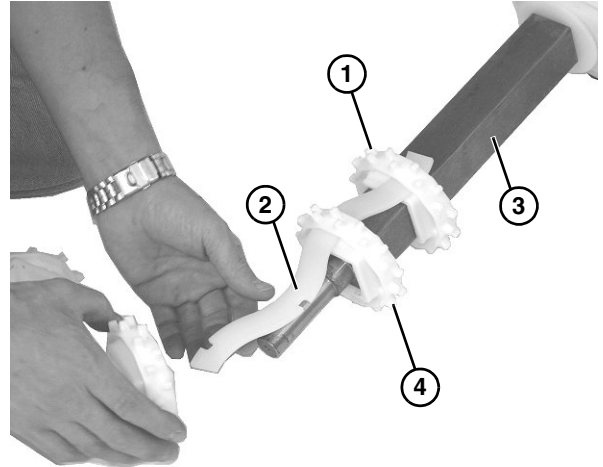

Figure 45
12. To assemble sprockets onto drive spindle, slide one sprocket (**Figure 45, item 1**) onto alignment bar (**Figure 45, item 2**) and slide assembly onto drive spindle (**Figure 45, item 3**).
13. Install second sprocket (**Figure 45, item 4**) and subsequent sprockets one by one, while sliding entire assembly onto alignment bar and spindle.